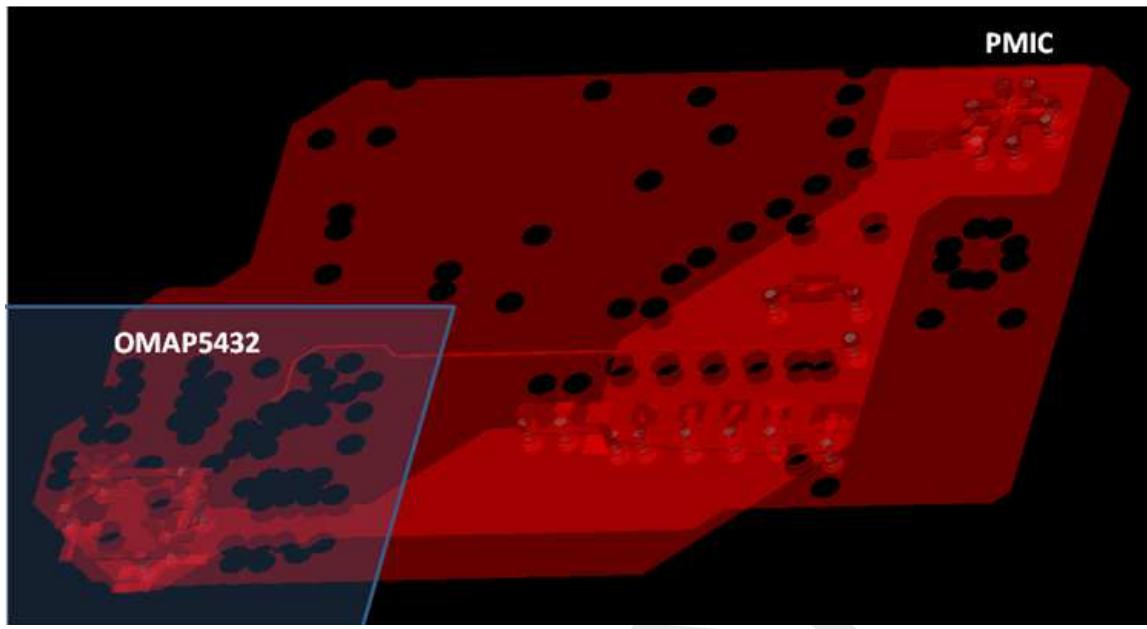
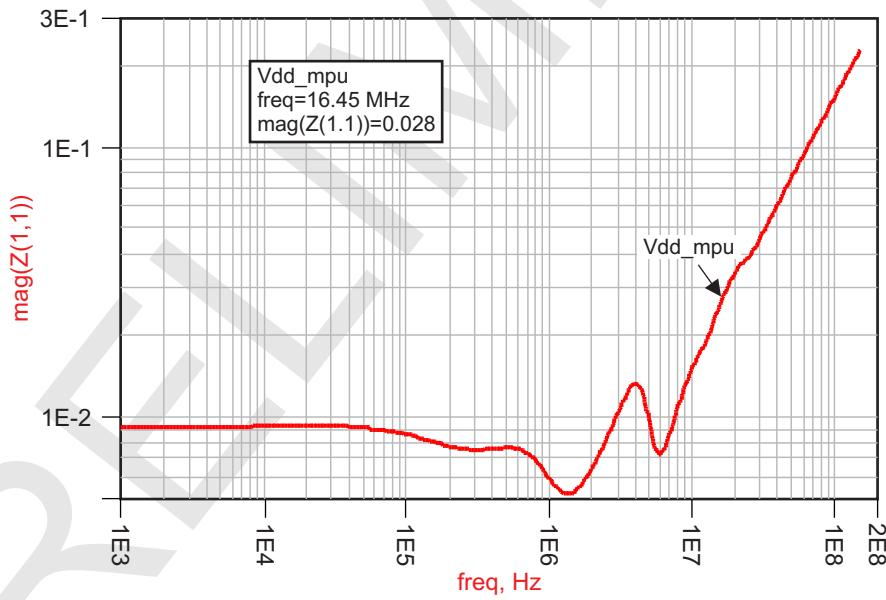

Figure 8-26. vdd_mpu PCB Requirements⁽¹⁾
Figure 8-27. vdd_mpu PDN Analysis
Figure 8-26 and Figure 8-27 show an example of PCB layout of vdd_mpu with the PMIC that meets the IR drop requirements and the PCB inductance loop.
Figure 8-26 and Figure 8-27 describe a working board. They do not show an optimized board.
(1) Figure 8-26 shows an example of vdd_mpu PCB layout that meets the IR drop and capacitance-inductance loop requirements.
Figure 8-27 describes the vdd_mpu PDN analysis versus frequency.